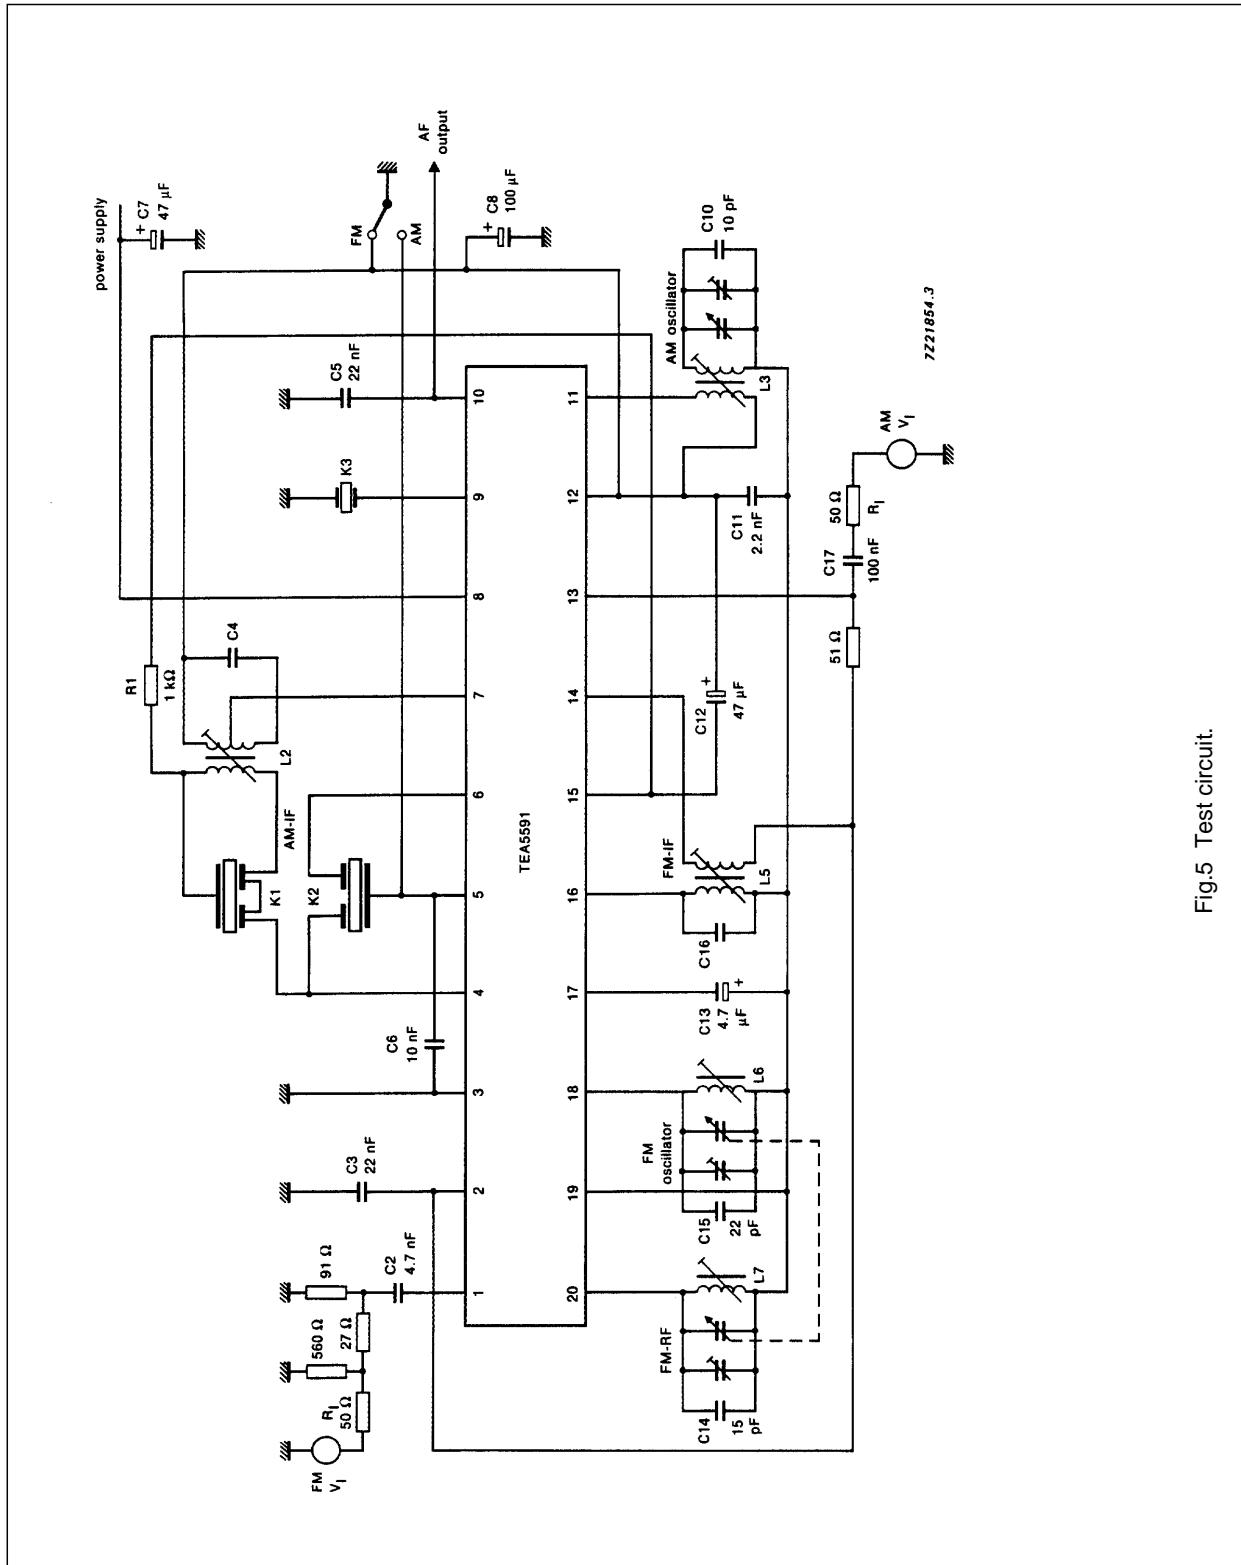

Fig.5 Test circuit.
AC CHARACTERISTICSAll parameters are measured in Fig.5 at nominal supply voltage $V_P = 3$ V; $T_{amb} = 25$ °C unless otherwise specified.RF conditions: Input frequency 1 MHz; 30% modulation where $f_{mod} = 1$ kHz; unless otherwise specified
All parameters are measured in Fig.5 at nominal supply voltage $V_P = 3$ V; $T_{amb} = 25$ °C unless otherwise specified
Fig.17 Signal and noise (V_{oAF}), noise (V_{oN}); reference level 0 dB = 100 mV, and total harmonic distortion (THD) as a function of input voltage (V_i) at pin 13. Measured in test circuit Fig.5. AM AGC is measured at $f_i = 1$ MHz; $f_{mod} = 1$ kHz; $m = 0.3$. AM distortion is measured at $f_i = 1$ MHz; $f_{mod} = 1$ kHz.
Fig.18 Signal and noise (V_{oAF}), noise (V_{oN}); reference level 0 dB = 100 mV; AM suppression (AMS) and total harmonic distortion (THD) as a function of input voltage (V) at pin 1. Measured in test circuit Fig.5 at $f_i = 98$ MHz; $f_{mod} = 1$ kHz; Δf 22.5 kHz. AM suppression is measured at $f_{mod} = 400$ Hz, $m = 0.3$ for AM; $f_{mod} = 1$ kHz, $\Delta f = 75$ kHz for FM.